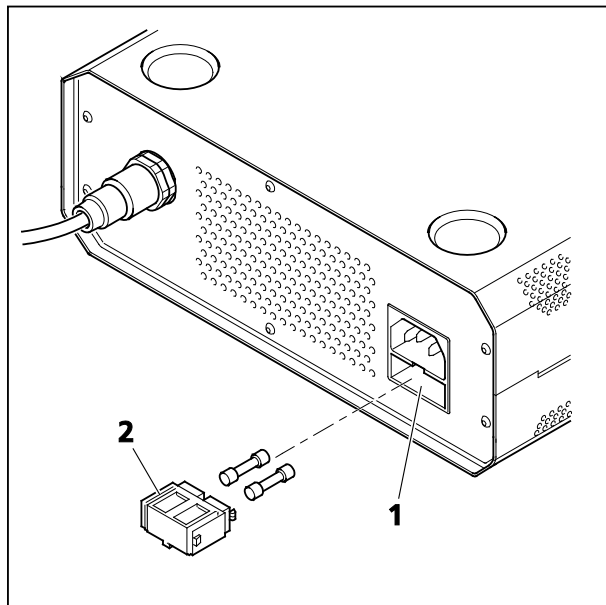

Fig. 165 Changing fuses on the external power supply unit for Axio Observer 7, 7 materials
- Pull out the fuse holder (Fig. 165/2) frontward.
- Reinsert the fuse holder into the fuse compartment (Fig. 165/1) until it clicks into place.